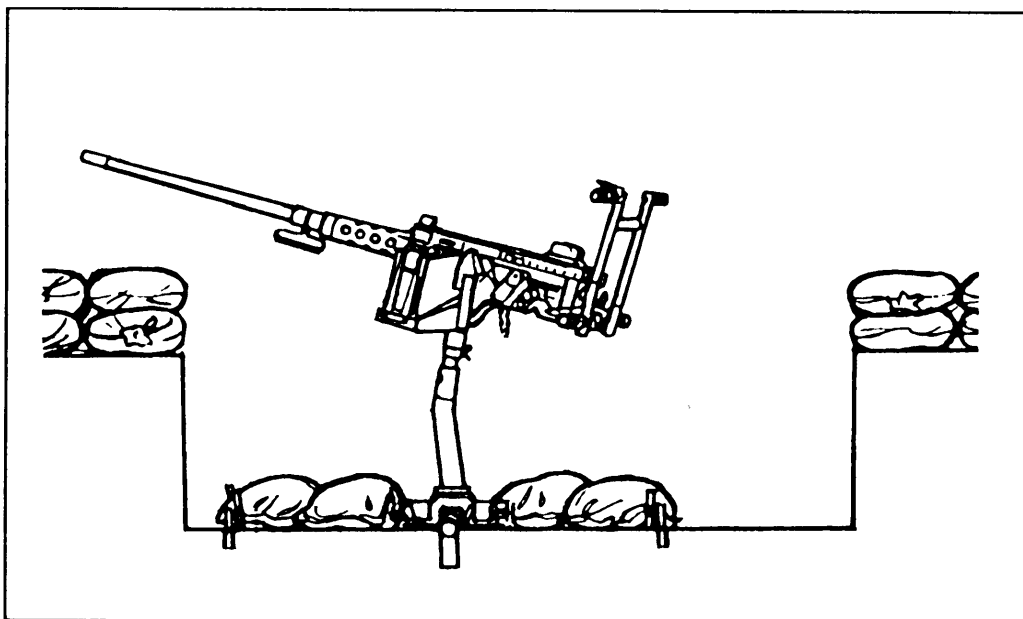

Figure 1-7. Antiaircraft mount, M63.
- (1) *To set the tripod trail legs –*
- (2) *To set the front leg of the tripod-*
- (3) To secure the tripod legs, stamp the metal shoe on each tripod leg into the ground. Sandbag each leg to stabilize the M2 for firing.
b. **Antiaircraft Mount, M63.** The antiaircraft mount (Figure 1-7) is a four-legged, low silhouette, portable mount used for antiaircraft fire. Table 1-3 lists the general data pertaining to the M63.